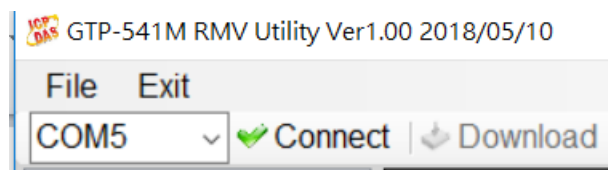

Figure 7.10.2
B. Click “Connect” on the Utility screen. As shown in Figure 7.10.2, if the connection is successful, “Connect success” will pop up and the “Connect” button will become “Disconnect”, as shown in Figure 7.10.3 and Figure 7.10.4.